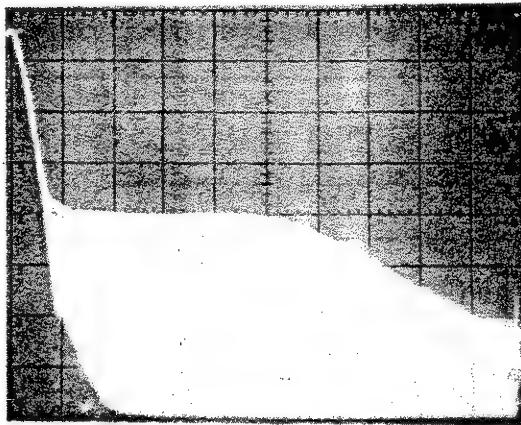

Figure 5-12. Phase Detector Response Waveform
c. Adjust efficiency control A4A7R18 for a flat response to approximately 5 MHz with very slight peaking ($1 \text{ dB} \pm 1 \text{ dB}$). See the waveform in Figure 5-12 for typical response.